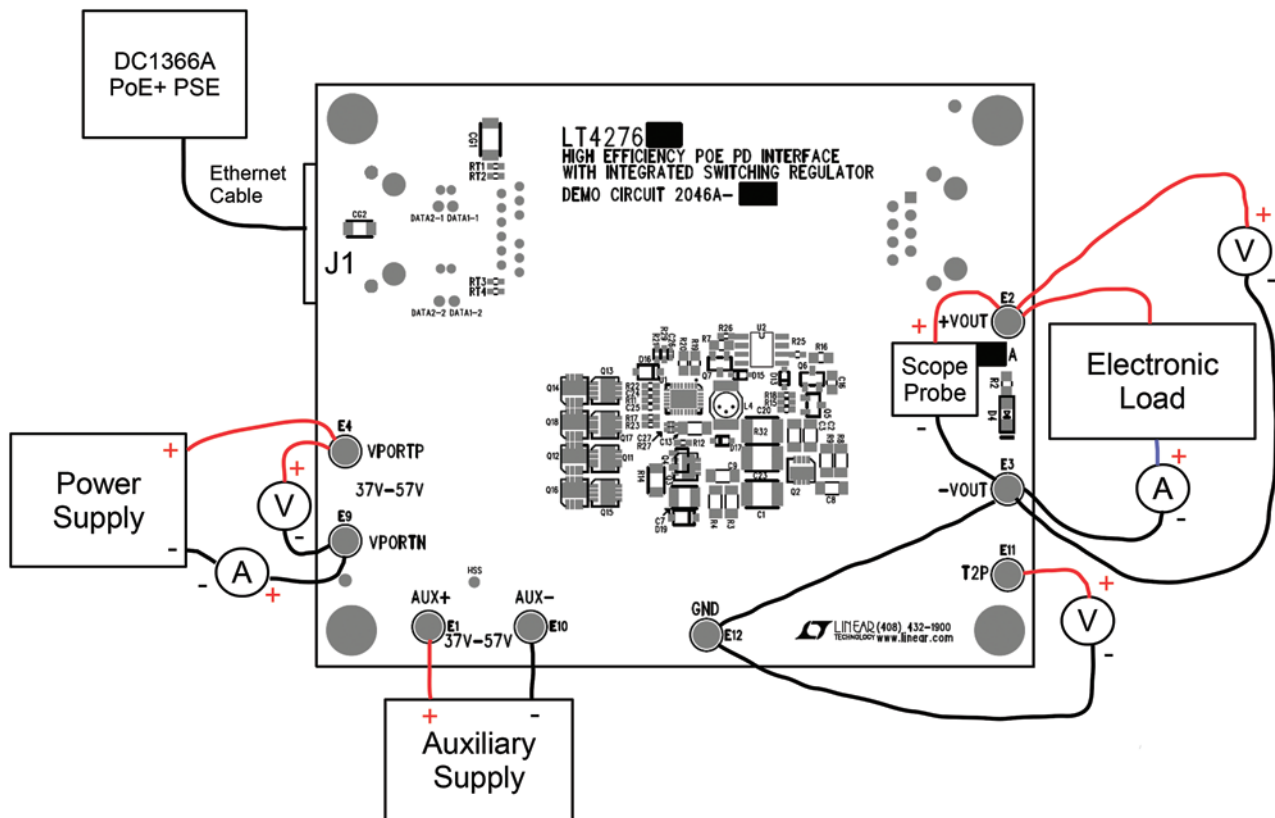

Figure 8. Proper Measurement Equipment Setup
Demonstration circuit 2046A-B is easy to set up to evaluate the performance of the LT4276 in a PoE+ application. Refer to Figure 8 for proper equipment setup and follow the procedure below.
1. Place test equipment (voltmeter, ammeter, power supplies, and electronic load) as shown in Figure 8.
- A) Connect a PoE+ capable PSE with a CAT-5 cable to the RJ45 connector, J1. See Figure 8.
- B) Or, connect a 37V to 57V capable power supply (Power Supply in Figure 8) across  $V_{PORTP}$  and  $V_{PORTN}$ .
- C) If evaluating the auxiliary power supply (Auxiliary Supply in Figure 8), connect a 37V to 57V capable power supply across AUX+ to AUX-.